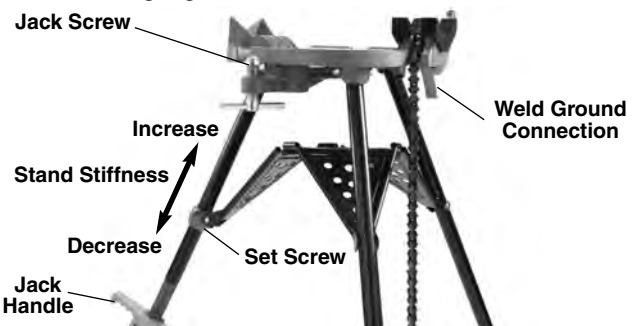

Figure 2 – Adjusting Tray Support (460-12)
8. Welding Connection – The 460-6 and 460-12 TRISTAND Pipe Vises include a welding ground connection point under the vise, *see Figure 2*.